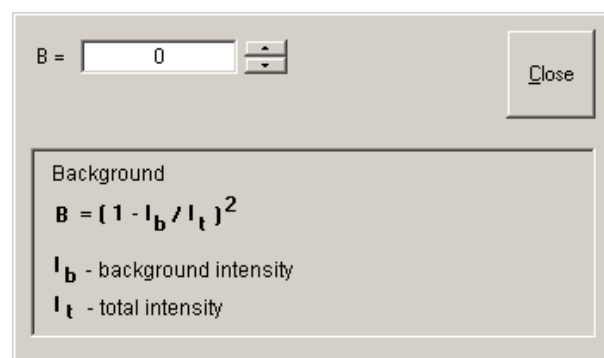

Fig. 4-73 Settings Background panel
- You can set an offset by setting a value in the **Background** selection box (see Fig. 4-73). Either type in a value or use the arrows.